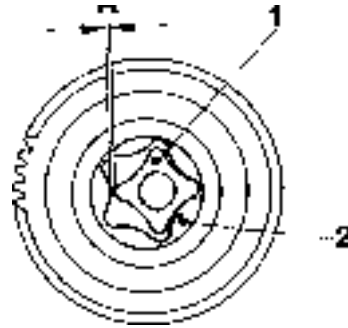

Fig. 84. Checking of oil pump clearance
2. Check the clearance between the outer and inner rotor (Fig. 84). Max. permissible clearance 0.25 mm (.0098 in).